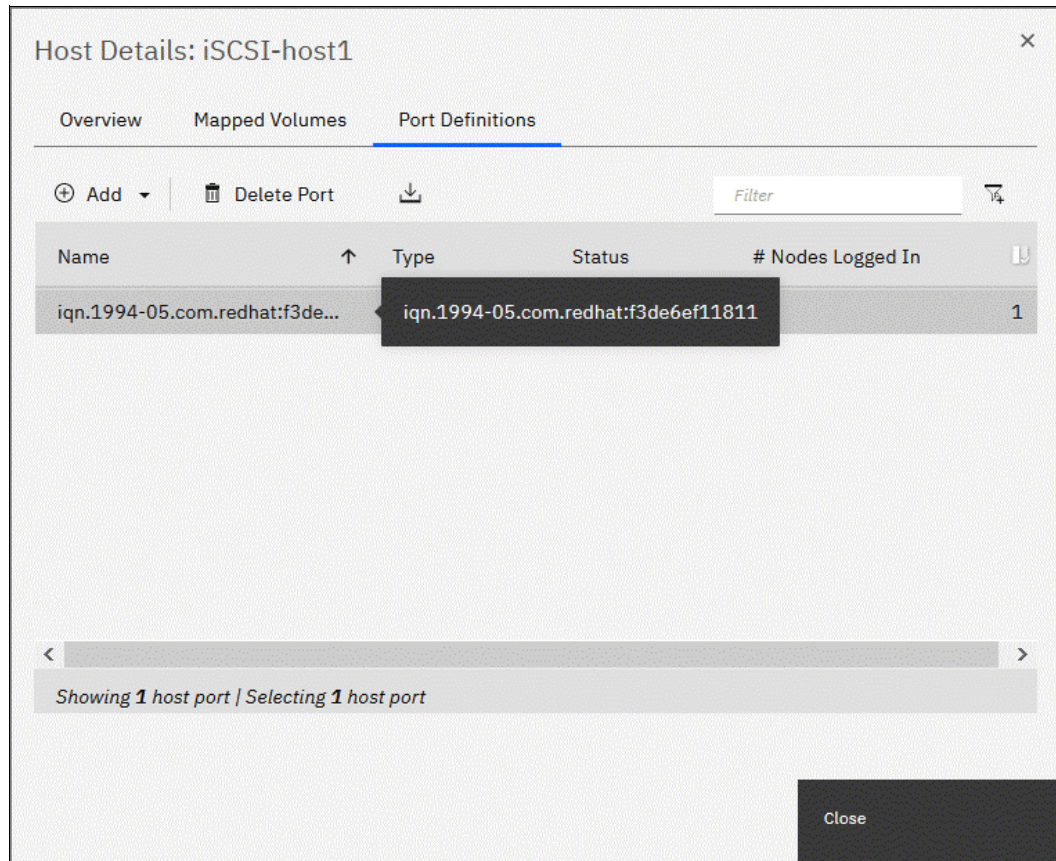

Figure 7-79 Host Details: Port Definitions tab
- After the host is ready and the iSCSI initiator is configured, define a host object on the storage system, as described in “Creating iSCSI host objects” on page 429. Make sure that the IQN is set correctly in the Host Details window in the Port Definitions tab, as shown in Figure 7-79.